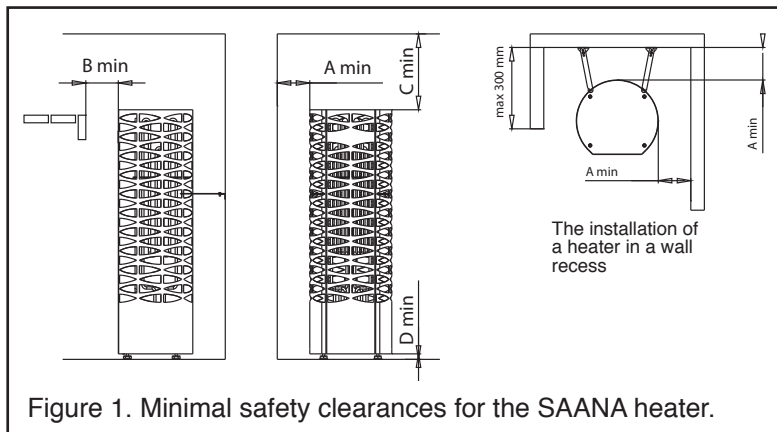

Figure 1. Minimal safety clearances for the SAANA heater.
**) See figure 1
- The heater can also be installed into a wall recess, see figure 1.